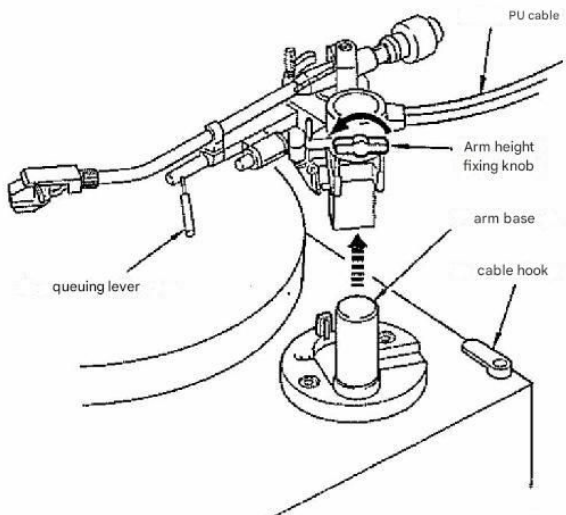

Figure 7
1. Remove the S-arm (see Figure 7)
- ③ Attach the S-shaped arm to the arm base and put it away.
- ④ Remove the YSA-1 from the player (same as in Figure 7).